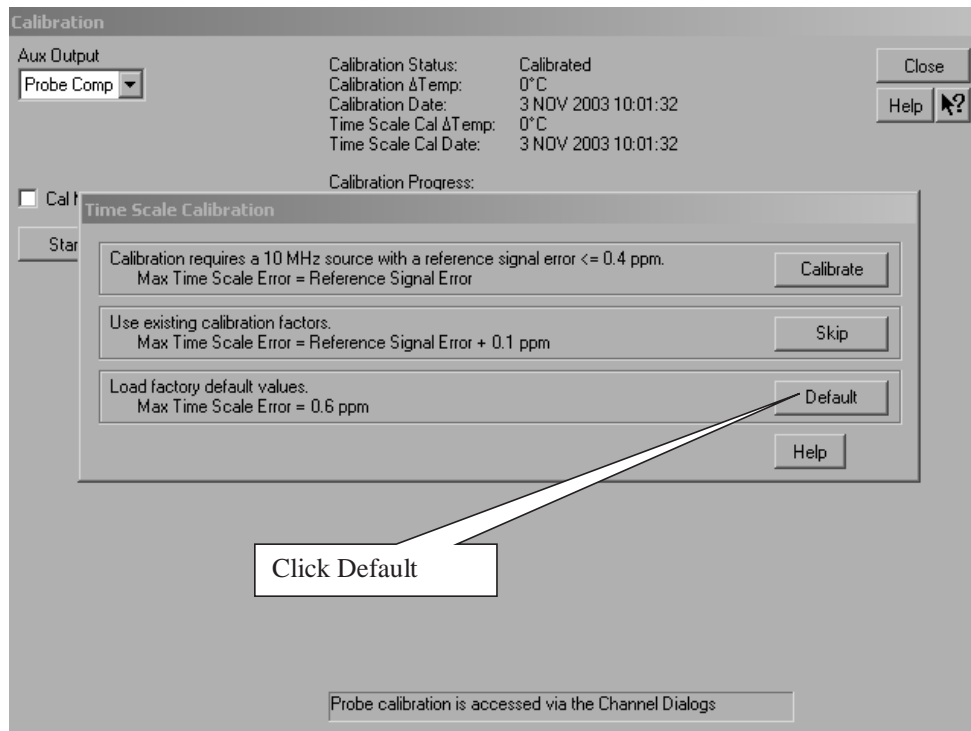

Figure 287 Time Scale Calibration Menu.
- d** Early during the calibration of channel 1, you will be prompted to perform a Time Scale Calibration, as shown in Figure 287 below.